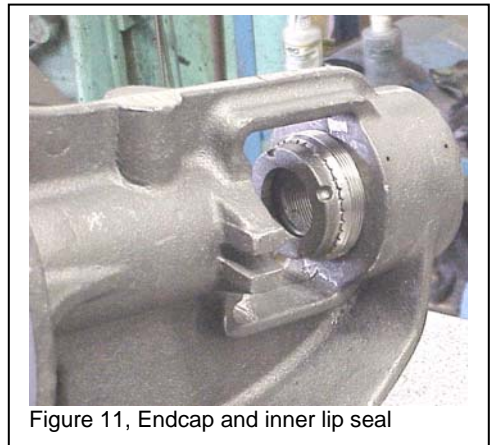

Figure 11, Endcap and inner lip seal
3. Press lip seals into the end caps, figure 6 and 7 page 3 (lip facing away from the threads). Put the inner end cap in the bracket as shown in figure 11.